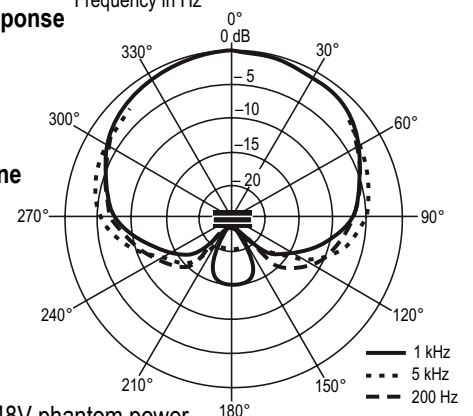

Figure 2. Horizontal plane polar pattern
**Polar pattern:** Supercardioid in the horizontal plane; half-supercardioid in the vertical plane. See Figure 2.